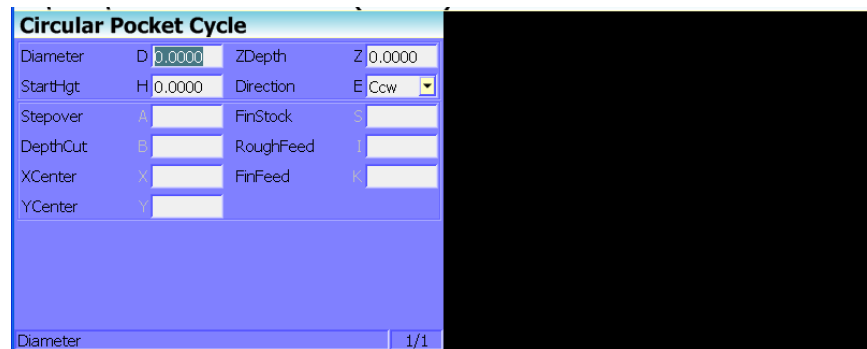

Figure 4-18, Circular Pocket Cycle Graphic Menu
2. Move the highlight to select **Circular** and press **ENTER** to display the Circular Pocket Cycle Graphic Menu. Refer to **Figure 4-18**.